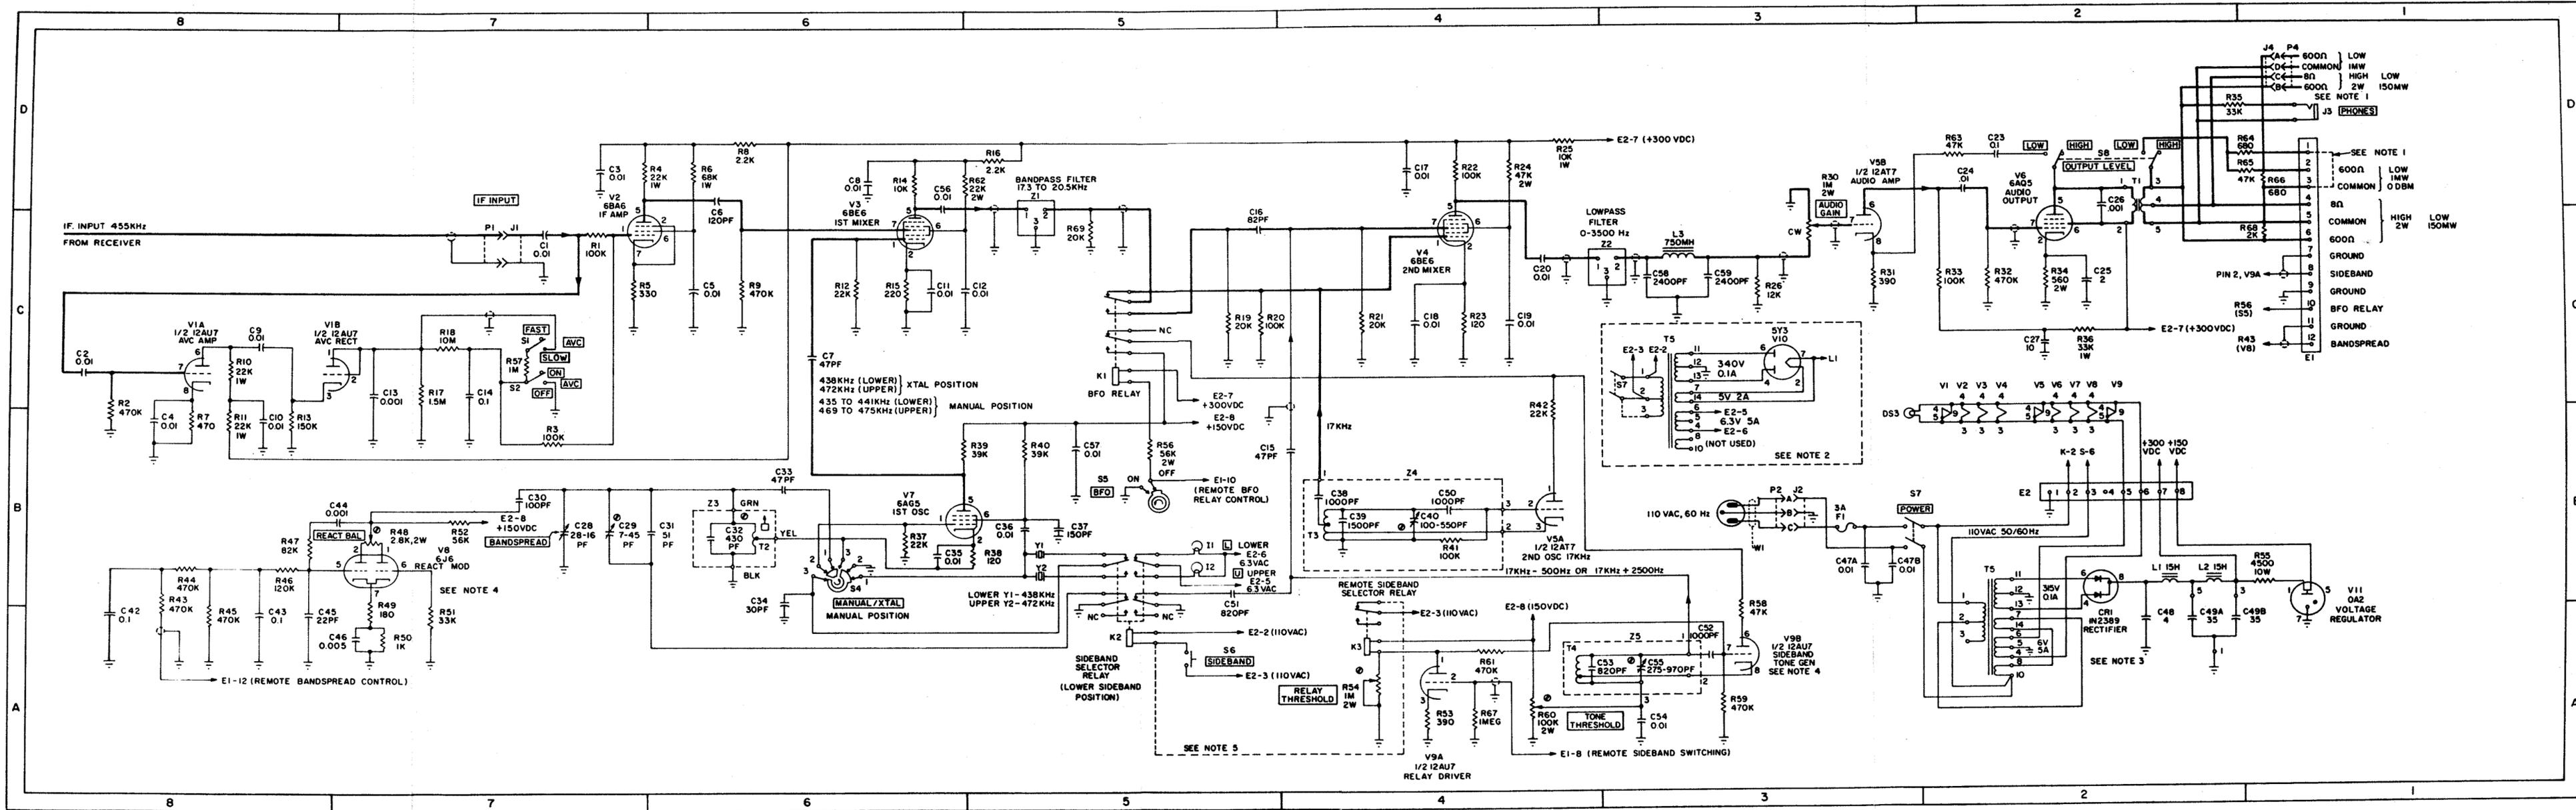

Figure 5-3. Single Sideband Converter CV-591A/URR, Schematic Diagram
5.4.1.1 Failure of lamp I3 to glow (figure 5-3) indicates loss of AC voltage. A quick check to determine whether fuse F1 is defective may be made by depressing SIDE BAND switch S6. Relay K2 is connected across the AC line and should cause the opposite Upper or Lower indicator lamp to light when depressed. If switching occurs, probable trouble could be a defective lamp. Failure of K2 to switch indicates loss of AC input, which could occur through failure of F1 or a disconnected line cord. Therefore, F1 and the line cord should be checked before further troubleshooting takes place. In the event F1 fails the second time, further troubleshooting becomes necessary. Power should be removed from the converter and a suitable multimeter should be used to check the power supply circuitry for possible short circuit of a component.
ZONING FOR SCHEMATIC DIAGRAM FIGURE 5-3
- C. TUBE PINS VOLTAGE & RESISTANCE VALUES - FIGURE 5-3.